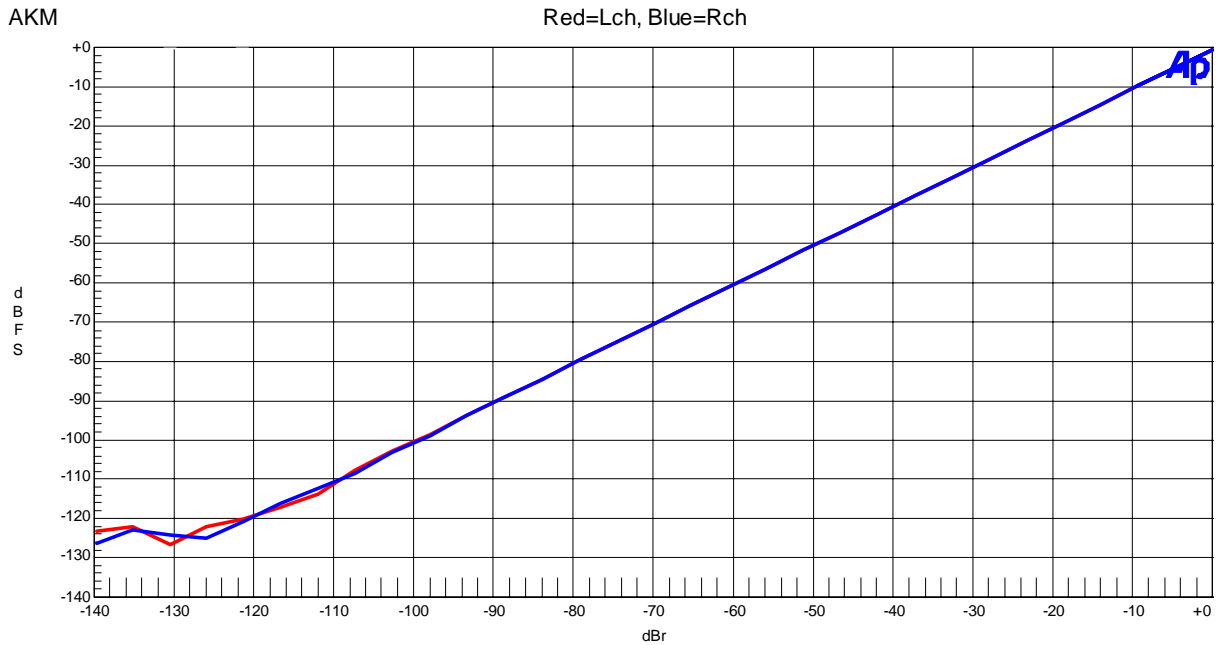

Figure 12 Linearity (fin=1kHz)
- Figure 12 Linearity (fin=1kHz)